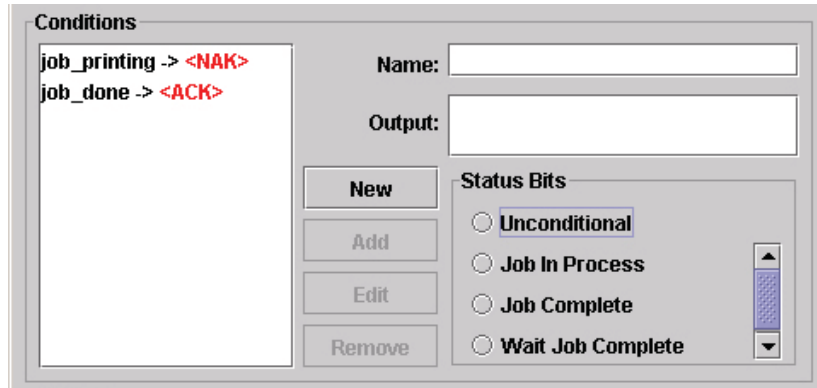

Figure 172 Adding Conditions
8. Click **Add** to add the entry to the list of protocol conditions. See Figure 172.